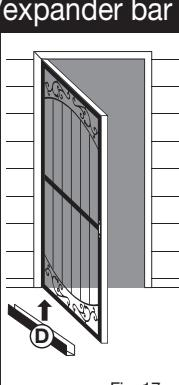

Fig. 17
Fig. 17 - With the door open, fit the bug sweep/expander bar (D) onto the bottom of the door. Close the door and position the bug sweep/expander bar so that the bar fits snugly against the threshold but does not restrict door operation. From inside the door, drill 1/8" holes through the bug sweep/expander bar and secure the expander bar to the door with the provided #6 x 3/4" screws.